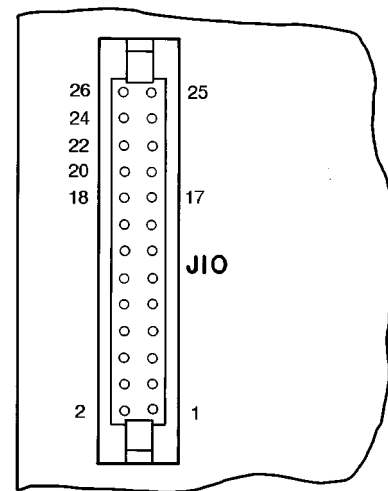

Fig. 35 — Display Board Pin Terminal Connector (J10)
5. Place the other lead on terminals shown in table below, and check voltage at pin terminals on pin terminal connector J10 (see Fig. 35 for pin terminal connector J10 details):